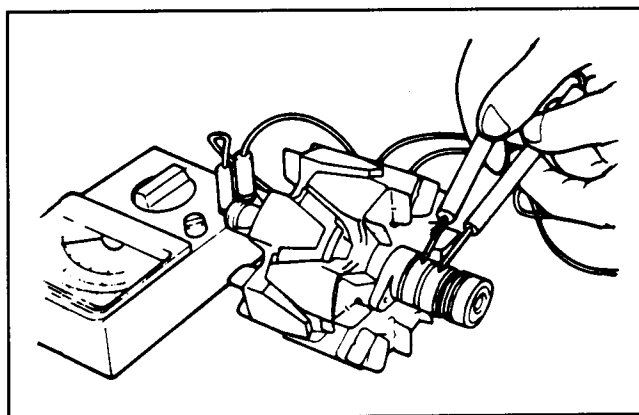

Figure 38
10. Check the field coil for continuity between the slip rings (Fig. 38). If there is no continuity, replace the field coil.